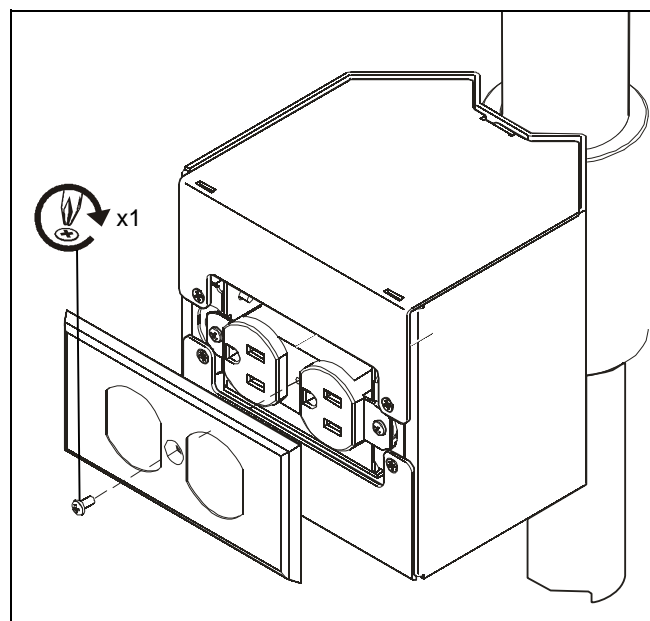

Figure 8
10. Secure cover to plug assembly using two Phillips pan head screws (provided with cover). (See Figure 8)